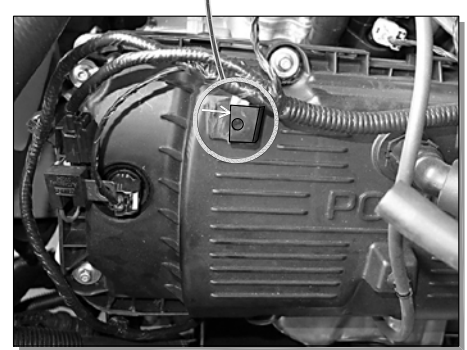
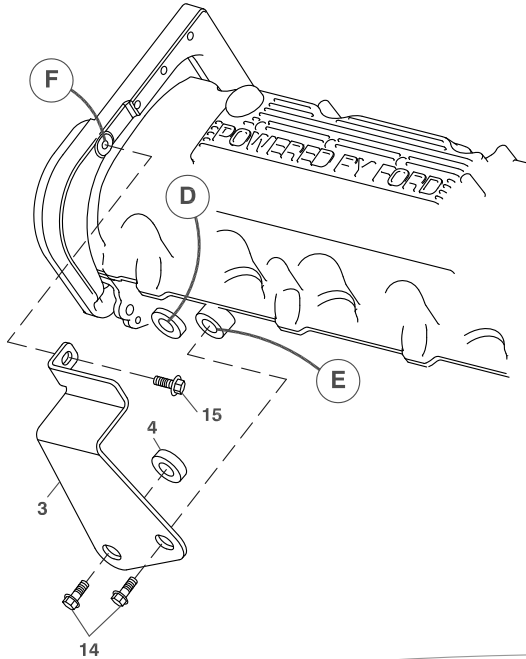

FIG. 8
FIG. 7
3. Remove the air tube connecting the air filter box to the intake box on top of the engine. Drain just enough of the engine coolant to remove the upper radiator hose from the engine water neck. Insert the hose splice (28) into the OEM radiator hose, push the short piece of radiator hose (29) onto the splice and onto engine with two 1.5" hose clamps (30). Unclamp the hose from the top front of the coolant tank (Location M), thread it between the power steering reservoir and the fan shroud and connect it back to the coolant tank. Replace coolant.
4. The supply hose for the power steering pump must be rotated to clear the new belt routing. Hold the spring clamp with locking pliers, and rotate the hose as far towards the driver side fender as possible. Using a cable tie (31), secure the steering hose to the radiator hose running between the coolant tank and the radiator. On 2012 and newer trucks, pull the wiring cable from the attachment point on the lower front of the driver's side valve cover at Location P, Fig. 7. Cut off that tab from the cover to give clearance for the belt. On 2013 and newer trucks, pull the wiring cable from the attachment point on top of the driver's side valve cover (Location Q, Fig. 8). To give clearance for the bracket (1), cut off the front section of the tab leaving the hole to attach the wiring cable.